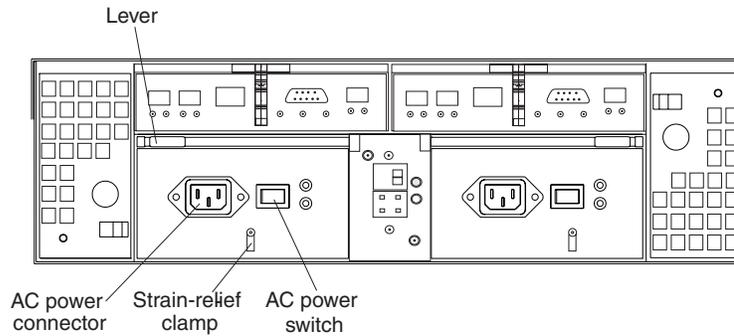

Figure 48. Connecting the power cord to the AC power connector
5. Connect the power cord to the AC power connector. See Figure 48 on page 63.